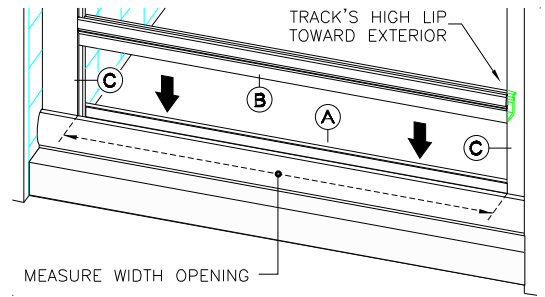

figure 3
5. Before proceeding, determine which side you want your door to strike (left or right, your choice). Now measure the opening width between the two Wall Jamb (C) as shown in figure 3 and trim **strike side end** of Sill Guide Track (B) to measurement obtained (**always trim the strike side end, never the hinge side end**). With Guide Track's high lip toward exterior, **snap** Track (B) into place as shown. See also exploded view - sheet 2.